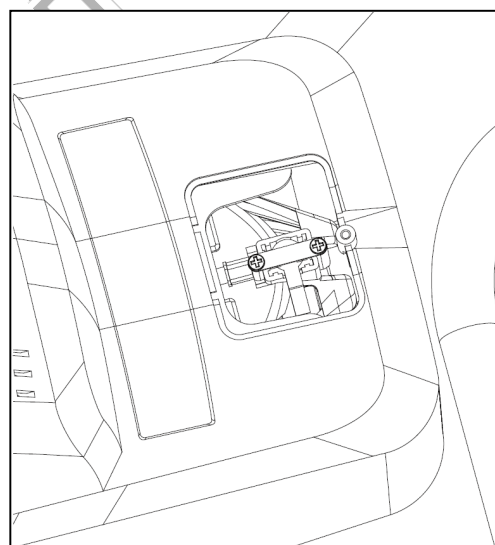

Fig. 6
2. Unscrew the Phillips head screw from the housing and open the carbon brush cover (Fig. 6).
3. Unscrew the two small Phillips screws inside (Fig. 6) to remove the carbon brushes.